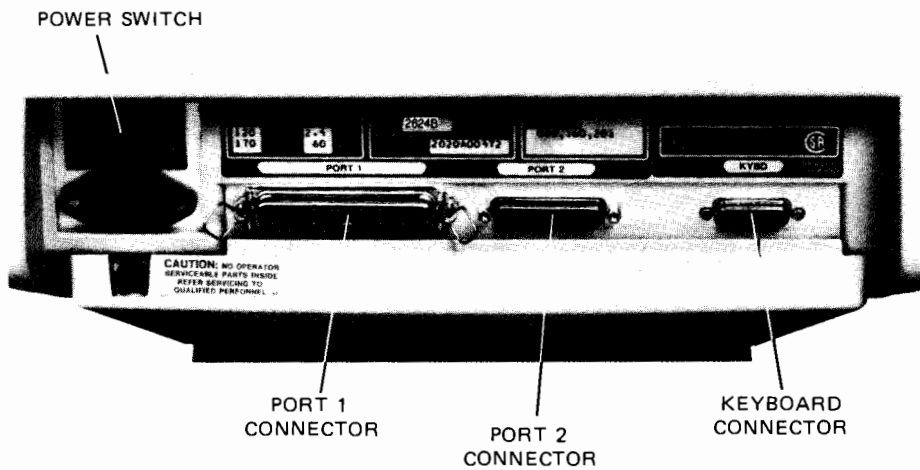

Figure 2-3. Power Switch and Connector Positions, Rear Panel
2. Connect and secure the keyboard cable hood connector to the socket connector labeled KYBD on the terminal's rear panel (see Figure 2-3).
4. Set the main power switch on the terminal's rear panel (see figure 2-3) to the OFF position.
When the installation of your terminal is completed, set the main power switch on the rear panel (see figure 2-3) to the ON position. After approximately 15 seconds, the terminal is ready to use. Figure 2-4 illustrates the condition of the display screen as it appears following the initial application of power to the terminal.